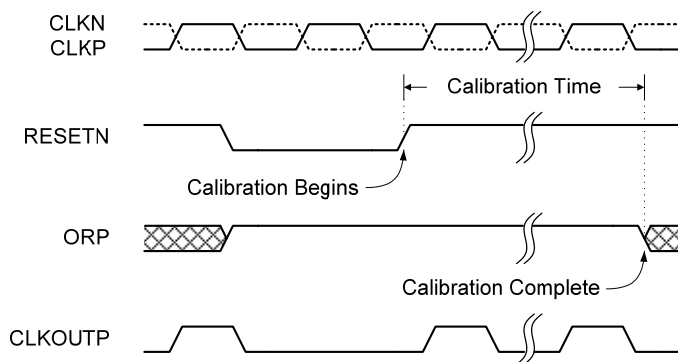

Figure 23. Calibration Timing
The calibration sequence is initiated on the rising edge of RESETN, as shown in Figure 23. The over-range output (OR) is set high once RESETN is pulled low, and remains in that state until calibration is complete. The OR output returns to normal operation at that time, so it is important that the analog input be within the converter's full-scale range to observe the transition. If the input is in an over-range condition the OR pin will stay high, and it will not be possible to detect the end of the calibration cycle.